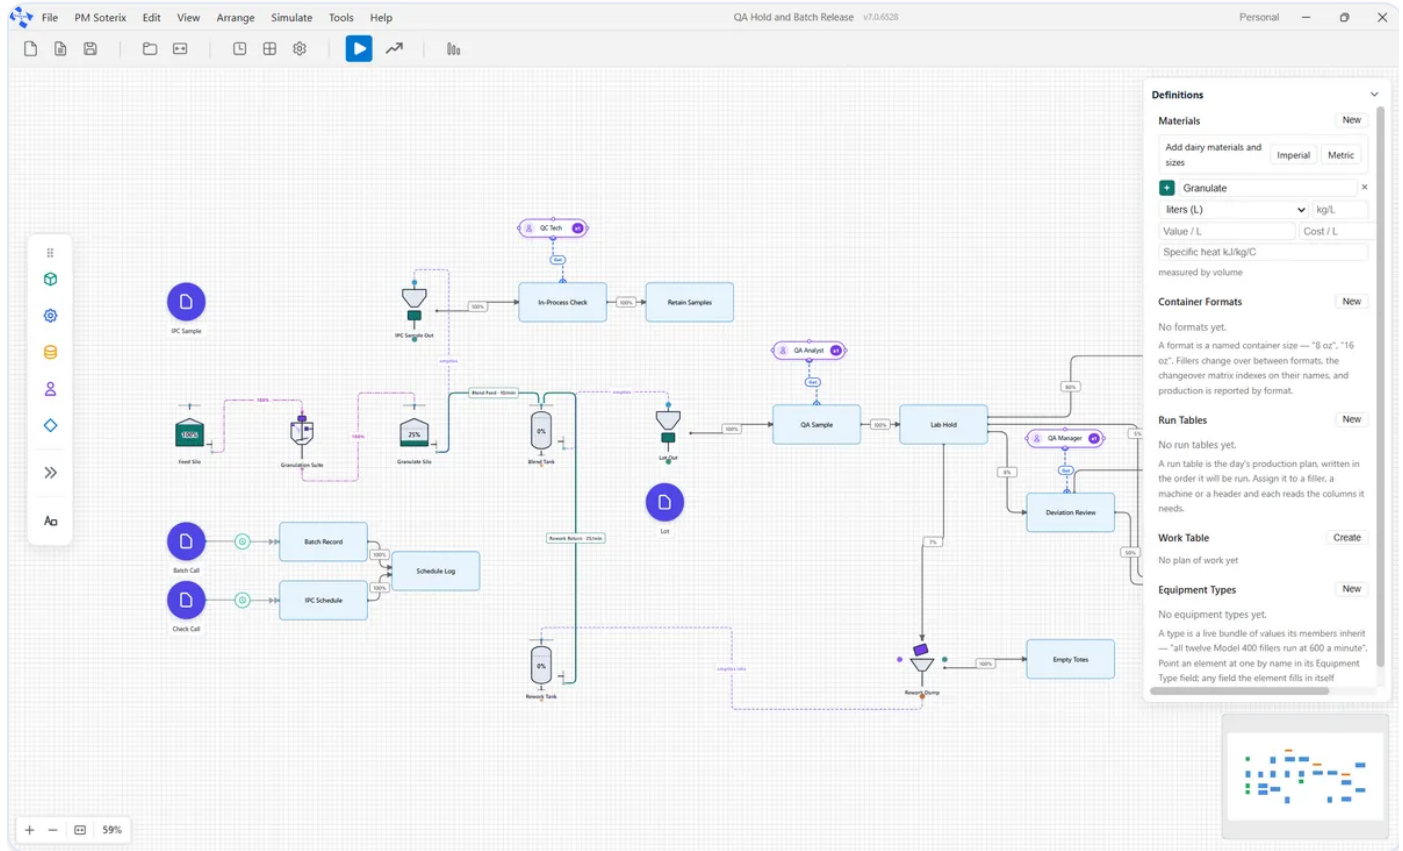

Figure 20. QA Hold and Batch Release. The bulk plant is on the left; everything to the right of the Discharge is ordinary discrete flow.
- Figure 20. QA Hold and Batch Release. The bulk plant is on the left; everything to the right of the Discharge is ordinary discrete flow.